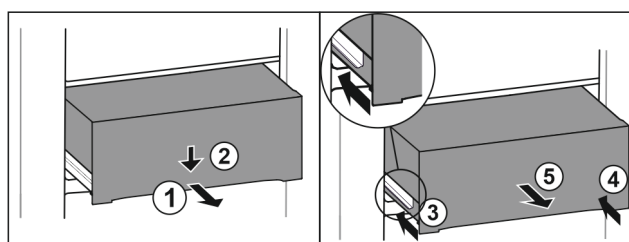

Fig. 226
- Pull out drawer half-way. Fig. 226 (1)
- Push the drawer down at the front. Fig. 226 (2)
- Push the left rail in by about 2 cm. Fig. 226 (3)
- Push the right rail in by about 2 cm. Fig. 226 (4)
- Remove drawer to the front. Fig. 226 (5)